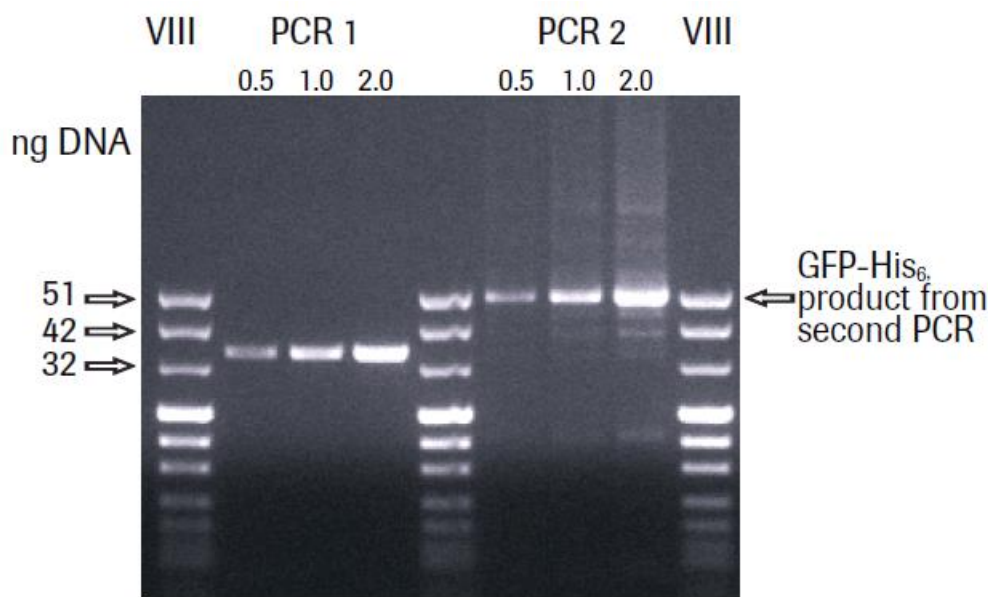

Figure 3. Typical products of the first and second PCR.
2. Estimate the product of the second PCR using the content of the molecular weight marker bands as an internal standard (Figure 3).
PCR product from the second PCR coding for C-terminal His₆-tagged GFP was quantified (Figure 3). 150 ng of the PCR product (corresponding to 3 μ l) were used for expression in a 50 μ l reaction volume of the RTS 100 *E. coli* HY Kit and analyzed by SDS-PAGE and Western blotting (Figure 4). Best expression results were obtained with PCR product concentrations of 1–3 nM (corresponding to 50–150 ng of a 1 kb fragment in a 50 μ l reaction volume).
5. Analyze the products of the GFP-specific first and second PCR on a 1% agarose gel. The expected products are 754 and 1,121 bp, respectively (Figure 3).